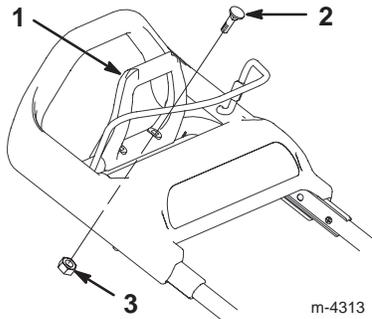

Figure 6
3. Position the traction assist handle over the holes in the upper handle bar (Fig. 6). Ensure that the upper part of the traction assist handle curves rearward.
2. Carriage bolt (2)
3. Locknut (2)
4. Use the carriage bolts and locknuts supplied in the kit to fasten the traction assist handle to the upper handle bar (Fig. 6). Tighten the locknuts until the traction assist handle no longer flexes, but **do not overtighten**.